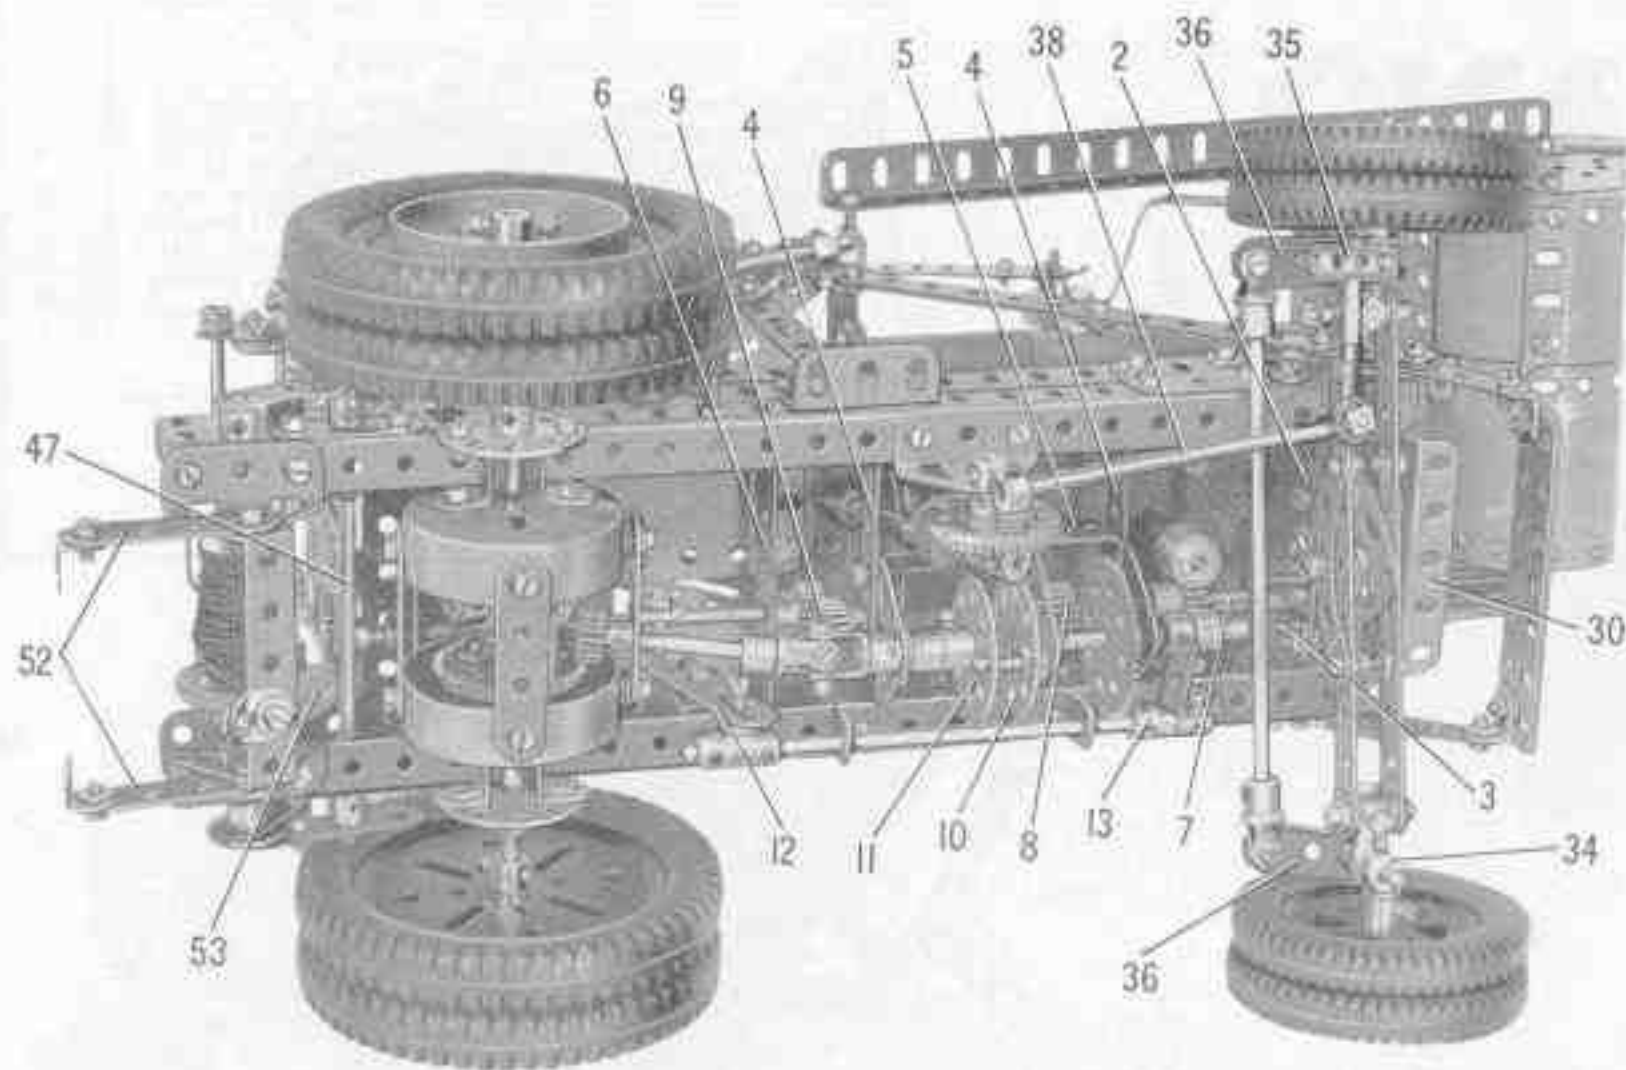
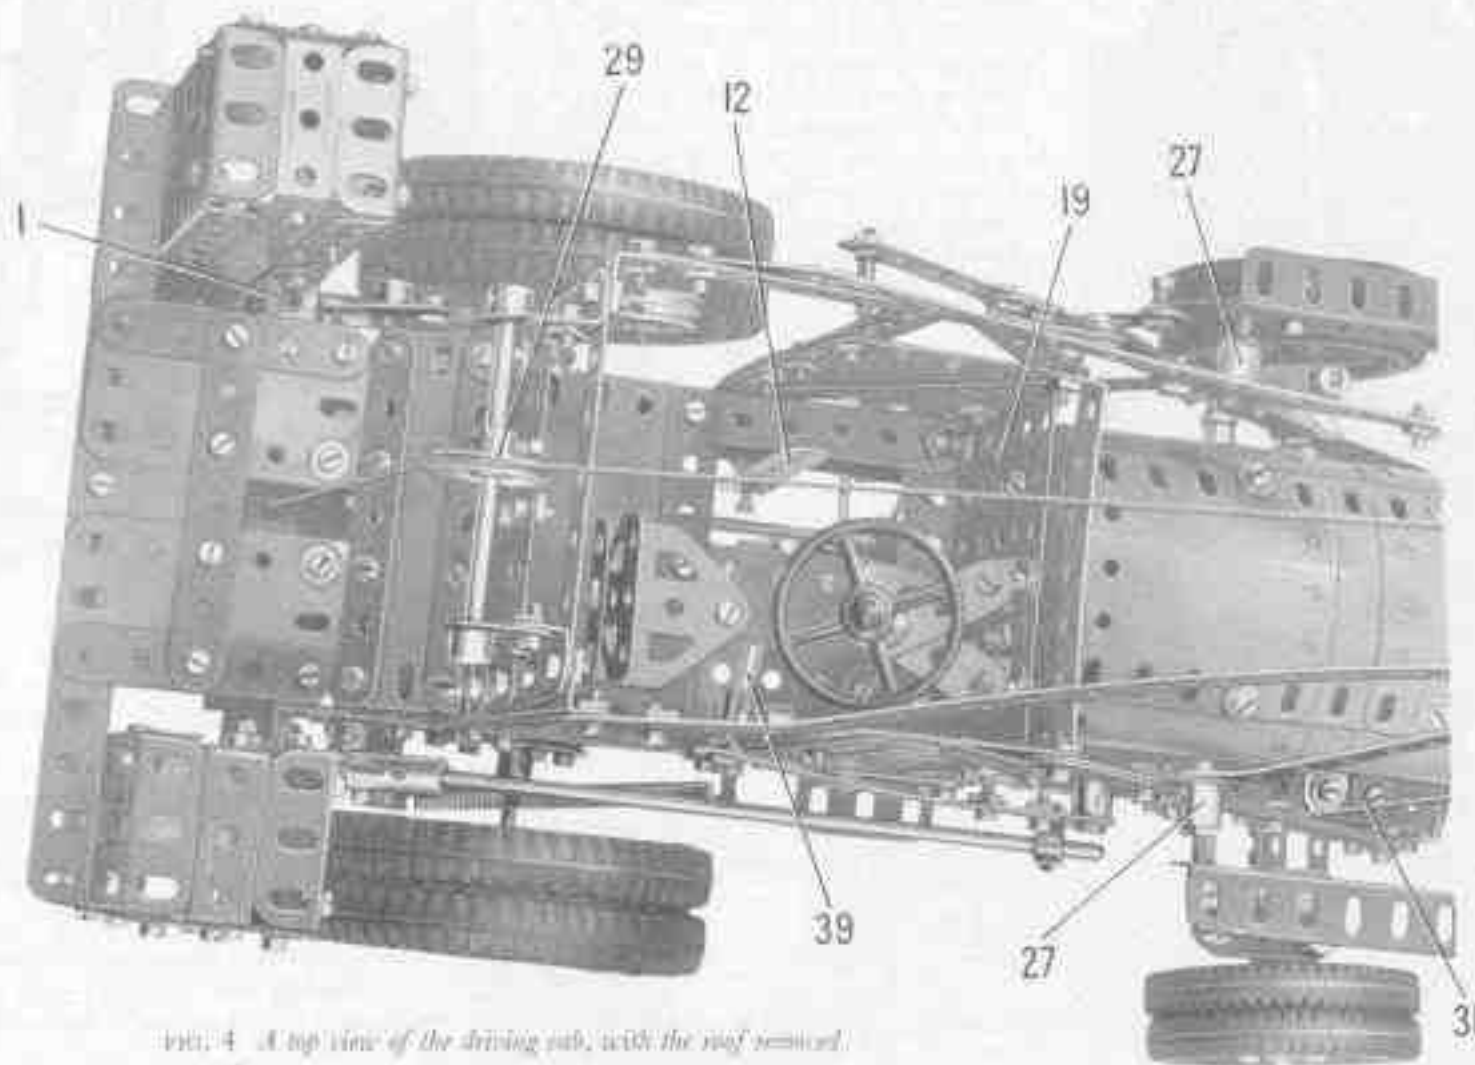

FIG. 2 The Lifting Shaft seen from underneath, with the reduction gearing and the driving mechanism clearly shown
FIG. 4. A top view of the driving cab, with the roof removed.
### Details of the Chassis (Fig. 2, 4, 5 and 8)
Each side-member is made from two  $1\frac{1}{2}$ " Angle Girders joined together by two  $1\frac{1}{2}$ " Flat Girders. They are connected at the rear by a  $4\frac{1}{2}$ "  $\times$   $\frac{1}{2}$ " Double Angle Strip (1) (Fig. 4), and at the front by two  $3\frac{1}{2}$ "  $\times$   $\frac{1}{2}$ " Double Angle Strips (2) (Figs. 2 and 5). To one of the Double Angle Strips (2) a Double Bent Strip (3) is bolted.
A Flat Trunnion is fixed to the  $1\frac{1}{2}$ "  $\times$   $\frac{1}{2}$ " Double Angle Strip, and a similar part is bolted also to each of the Double Angle Strips (4). Two  $3\frac{1}{2}$ "  $\times$   $\frac{1}{2}$ " Double Angle Strips (6) (Figs. 2 and 8) are fixed across the chassis as shown.
**The Main Drive Gears (Figs. 2, 4 and 5)**
A Worm on the lower end of the Motor armature shaft drives a  $\frac{1}{2}$ " Pinion on a  $4\frac{1}{2}$ " Rod (7). The Rod is supported in the Double Bent Strip (3) and in the Double Angle Strips (4), and it carries two  $\frac{1}{2}$ " Pinions (8 and 9) (Fig. 2). A 57-tooth Gear and a Bush Wheel (10) are fixed on a  $2\frac{1}{2}$ " Rod supported in two of the Flat Trunnions. The Bush Wheel is fitted with two Threaded Pins, and these engage holes in a second Bush Wheel (11), fixed on a  $1\frac{1}{2}$ " Rod mounted in a Crank. The Crank is bolted to the Flat Trunnion fixed to the rear one of the Double Angle Strips (4), and the  $1\frac{1}{2}$ " Rod is held in place by a Universal Coupling.
By sliding the  $2\frac{1}{2}$ " Rod the 57-tooth Gear can be moved into mesh with the Pinion (8). This movement is controlled by a lever (12) (Fig. 4), made from a 3" Strip and a 2" Slotted Strip overlapped two holes. The lever is lock-acted to a Double Bent Strip bolted inside the chassis side-member. A  $\frac{1}{2}$ " Bolt is passed through the slotted hole of the 2" Slotted Strip, and is fixed by a nut in a Coupling on a 3" Rod. This Rod is mounted in a  $2\frac{1}{2}$ " x  $\frac{1}{2}$ " Double Angle Strip bolted to the chassis, and it carries a Coupling (13)
**The Rear Axle and Differential (Figs. 2 and 3)**
### Construction of the Cab (Figs. 2, 4, 7 and 8)
The Girders (21) are connected together by 3 1/2" Strips and a 3 1/2" x 2 1/2" Flexible Plate as shown (Fig. 8). The floor of the cab is made from a 3 1/2" x 2 1/2" Flexible Plate and a 2 1/2" x 1 1/2" Flexible Plate (Fig. 4). The cab roof is a 3 1/2" x 2 1/2" Flanged Plate, to which two 3 1/2" Strips are attached by means of two 2" Strips.
### Front Axle and Steering Mechanism (Figs. 2, 4, 5 and 7)
The steering column is a 5" Rod passed through the  $3\frac{1}{2}$ " Angle Girder that supports the Flanged Plate (19). At its upper end the Rod is supported in holes in two  $1\frac{1}{2}$ " Strips, each of which is connected to the Flanged Plate (19) by an Obtuse Angle Bracket (Fig. 4).
#### The Motor Control Switch (Figs. 4 and 7)
#### Arrangement of the Winch (Figs. 2, 6, 7 and 8)
A cover over the winding drum mechanism is arranged as shown in Figs. 4 and 7. The cover hangs on Hinges, which are bolted to the back of the cab.